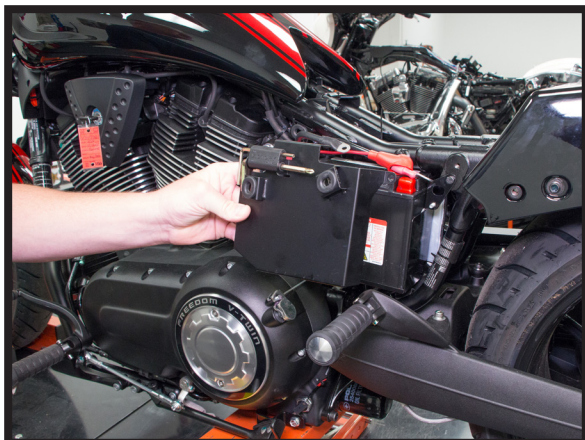

FIGURE 5
2. REMOVE THE BATTERY. (FIGURES 5, 6)